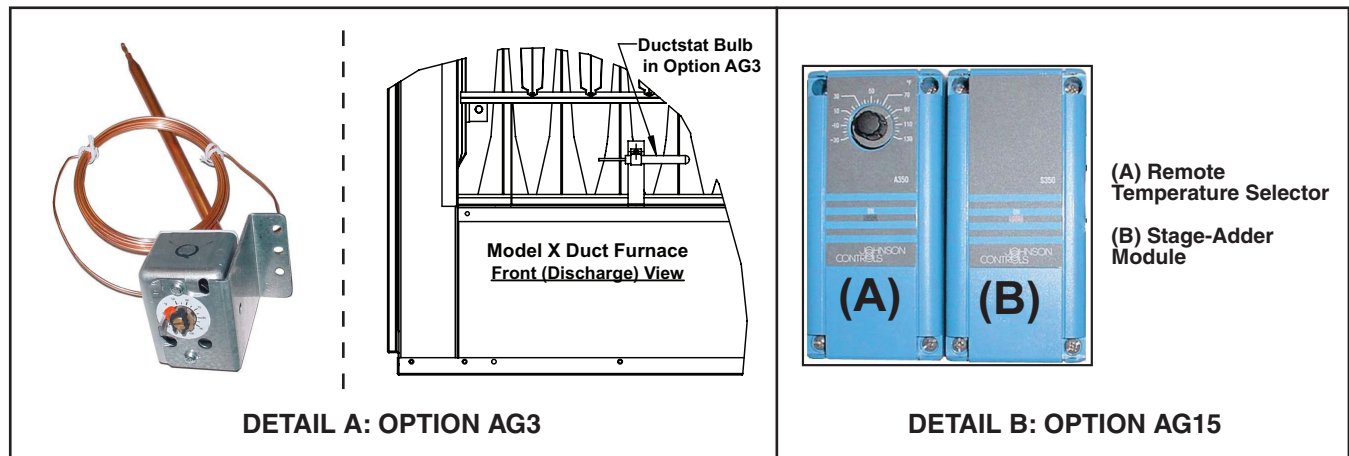

Figure 20. Ductstat Options
- See Figure 20, DETAIL A.
- See Figure 20, DETAIL B.